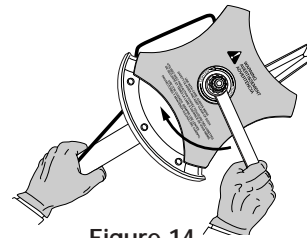

Figure 14
2. Hold the locking rod in place by grasping it next to the boom of the unit. See Figure 14.
3. While holding the locking rod, loosen the nut on the blade by turning it clockwise with a 5/8 inch closed-end or socket wrench. See Figure 14.